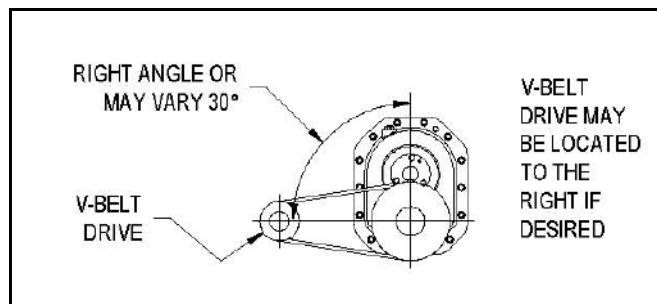

Figure 3.5 Angle of V-Drive
5. If not using a Dodge Torque-Arm II motor mount, install motor and V-belt drive so belt will approximately be at right angles to the centerline between driven and input shaft. (See Figure 3.5) This will permit tightening the V-belt with the torque arm.
7. Install torque arm on reducer and equipment using hardware provided. (See Figure 3.5 & 3.6) Make sure that there is sufficient take-up in the turnbuckle for belt tension adjustment when using V-belt drive.